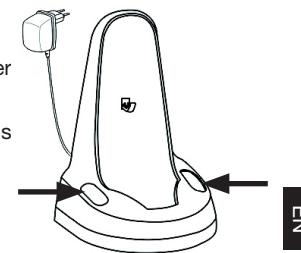

Figure 12
- The accessories can be stored in the compartments provided on either side of the charger base (Fig. 12).